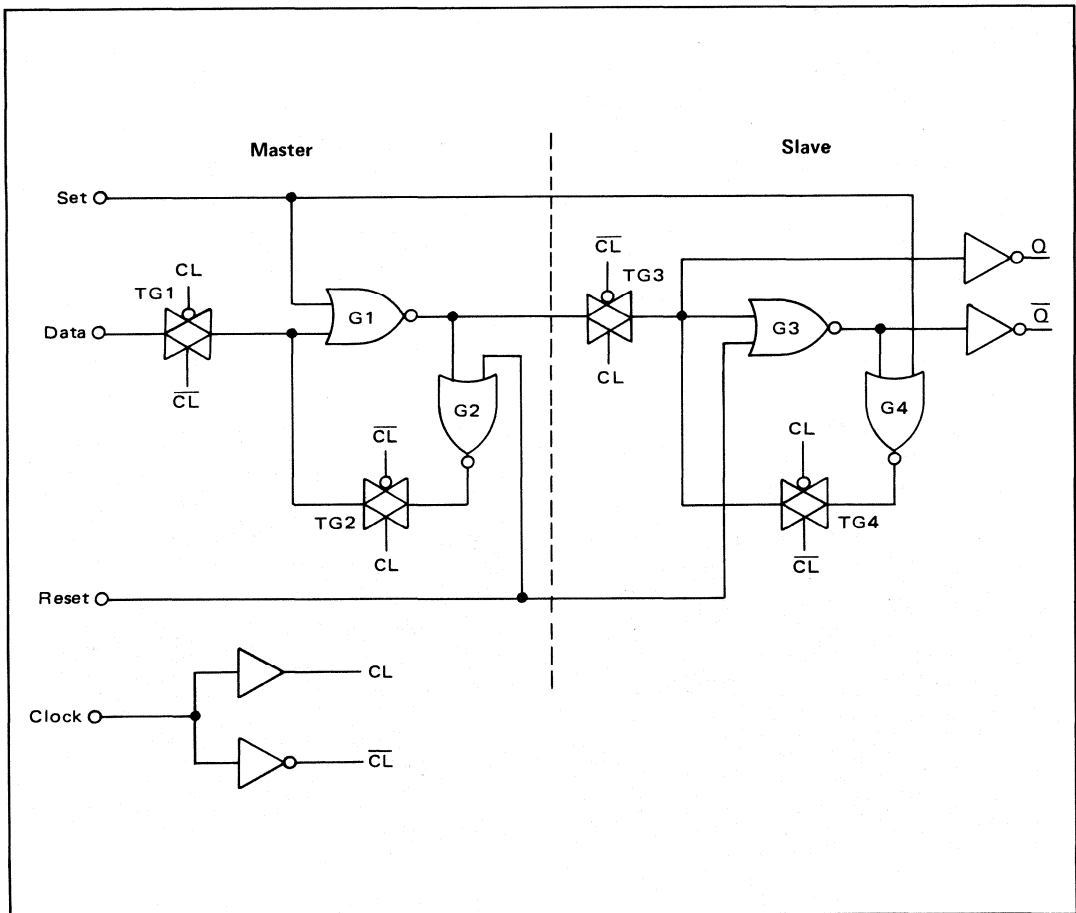

FIGURE 2-36 – CMOS TYPE D FLIP-FLOP
The transmission gate is a valuable tool used for accomplishing many CMOS technology MSI and LSI designs. An illustration of using the basic transmission gate is provided in the CMOS MC14013, Type-D flip-flop as shown in Figure 2-36. The flip-flop works on the Master/Slave principle and consists of four transmission gates (TG). Four NOR gates, two inverters, and a clock buffer/inverter, comprise the configuration. When the clock is a logic "0", transmission gates TG2 and TG3 are OFF and 1 and 4 are ON. In this condition, the Master is logically disconnected from the Slave. With TG4 ON, gates G3 and G4 are cross-coupled and latched in a stable state. Assuming that the Set and Reset inputs are low, the logic states of gates G1 and G2 are determined by the logic signal applied to the Data input. When the clock changes to a logic "1", TG2 and TG3 turn ON and TG1 and TG4 turn OFF. Gates G1 and G2 are cross-coupled through TG2 and latch into the state they held at the time the clock changed from a "0" to a "1". With TG3 ON, the logic state of the Master section (output of gate G1) is fed through an inverter to